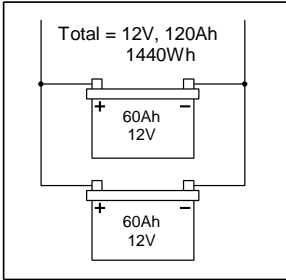

Fig 10. In parallel to increase amp hours
- Batteries may be linked as shown in the figures 10 and 11. It is essential to observe polarity as follows: